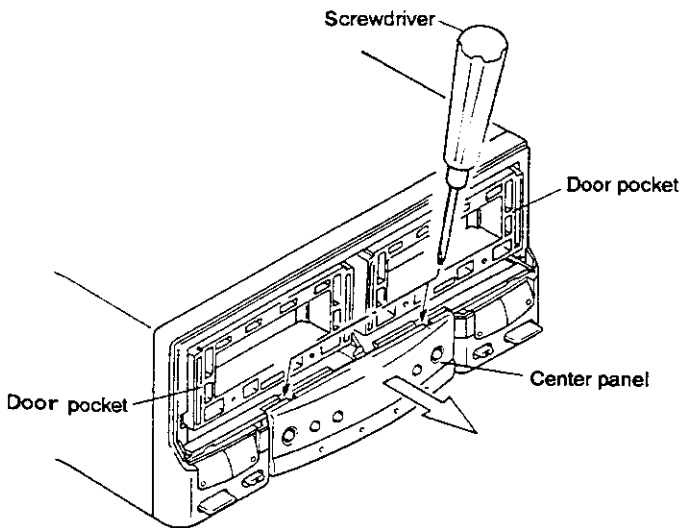

Fig. 7-5
3. Close the door pockets of DECK I and DECK II, and then insert a screwdriver in the slit of the center panel. Push the two hooks, and take off the center panel. (See Fig. 7-5.)